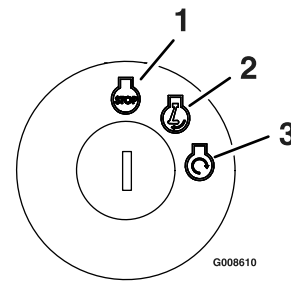

Figure 14
4. Rotate the key switch to the ON position (Figure 14).
5. Turn the key to the START position, and hold it there until the engine starts (Figure 14).